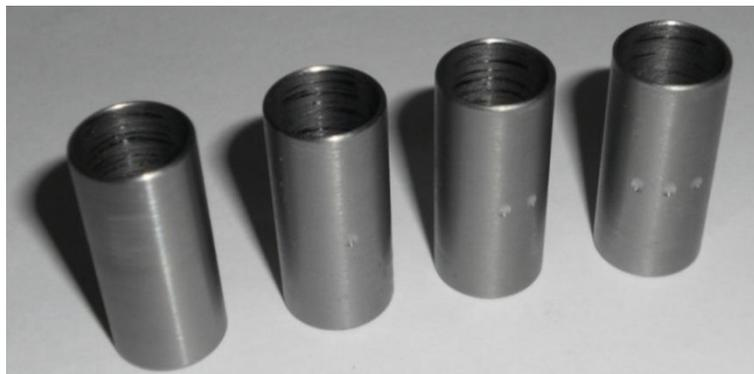

Figure 124 – Crankcase Dowels
- Fit the hollow dowels to one crankcase half in the positions arrowed above. It is vital that poorly fitted dowels are not used at the crankcase join – if the dowels can be pushed in by hand then they are too loose. The correct fit is a light “tap” fit using a soft hammer. Oversize dowels are available to ensure a snug fit. These are identified by “dots” machined into them as shown in Figure 124 – the standard size has no dots then the size increases progressively up to the 3-dot dowel which is the largest size available. Experience in Australia has shown that 1-dot dowels are suitable for most overhauled engines with 2-dot and 3-dot parts being used very occasionally.